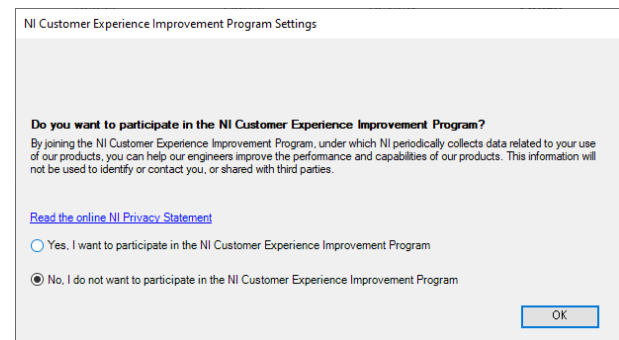

Figure 2-18 NI Customer Experience Improvement Program
11. When installation is complete, you will be asked if you would like to join “NI Customer Experience Improvement Program.” You can either join or not join, so select either option and click the OK button (Figure 2-18).